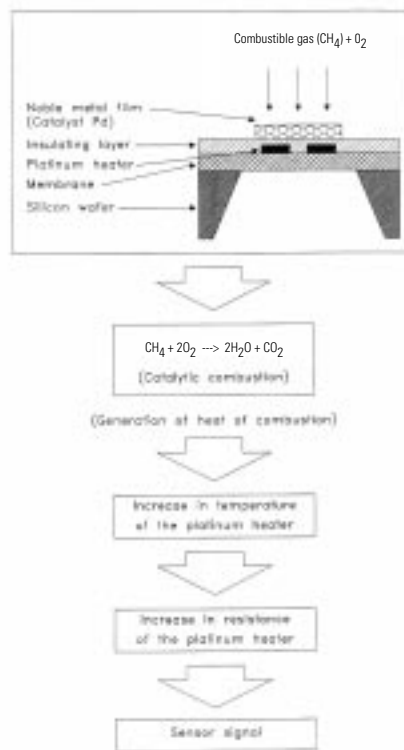

Figure 1: Schematic drawing
■ The sensitive element and the reference element of this type of sensor are two identical heaters in the form of thin platinum layers. These two heaters are deposited on a thin silicon nitride membrane providing good thermal and electrical insulation from each other and from the silicon substrate. The catalyst is a precious metal such as palladium deposited on the sensitive heating resistance, see Figure 1.